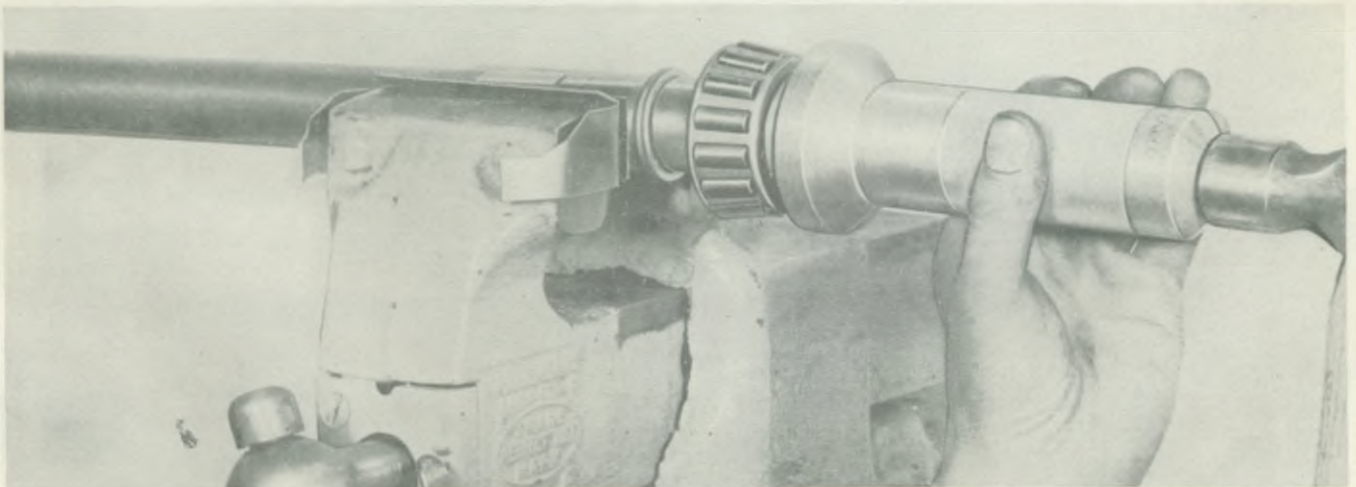

Fig. 6. Fitting wheel bearing inner ring on axle shaft—Tool No. 20S-92
1. Fit inner ring of hub bearing on axle shaft employing special installing tool as shown in Fig. 6.